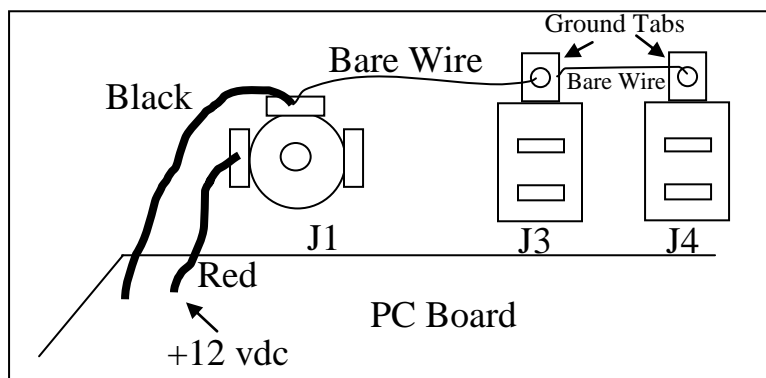

Figure 9. Rear panel wiring of power and audio connectors.
4. ☐ Thread a bare wire through the ground tab of audio jack (J3) and solder one end to the ground tab of J4. Also solder this wire to the ground tab of J3. Insert the end of this bare wire into the top tab of the power connector but do not solder (see Figure 9).